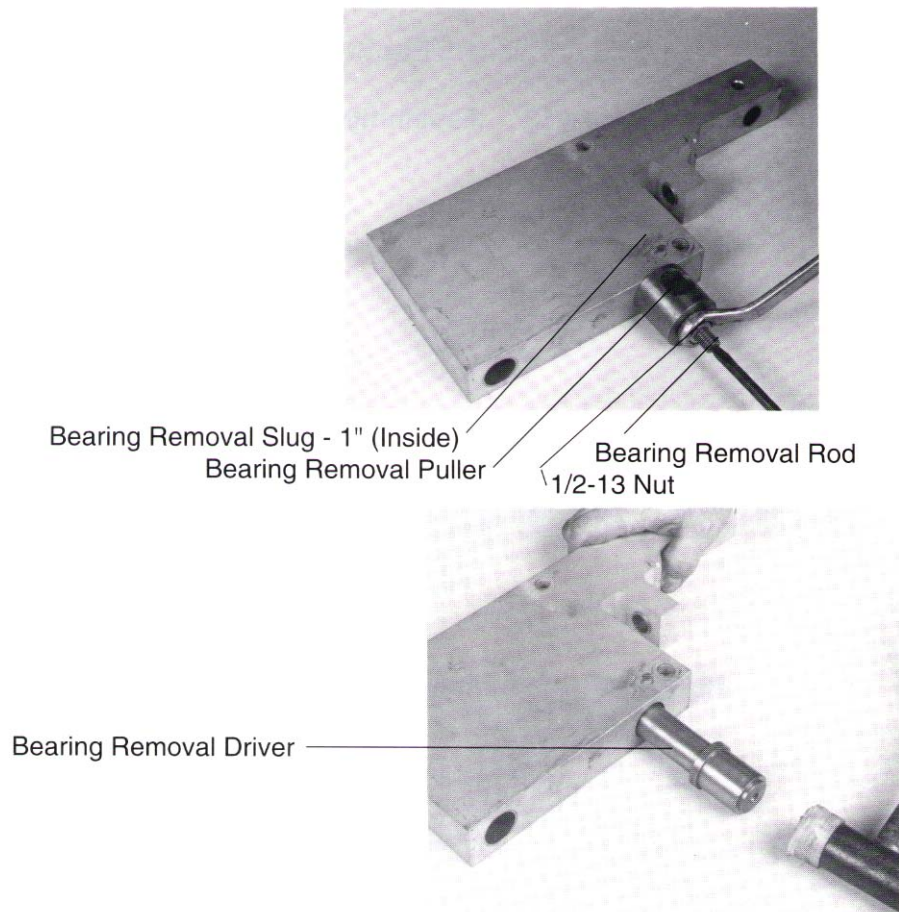

Figure 24. Removing Bearings from Upper Drive Arm
11. Remove sleeve bearings from upper and lower drive arms. Refer to Figures 24 and 25